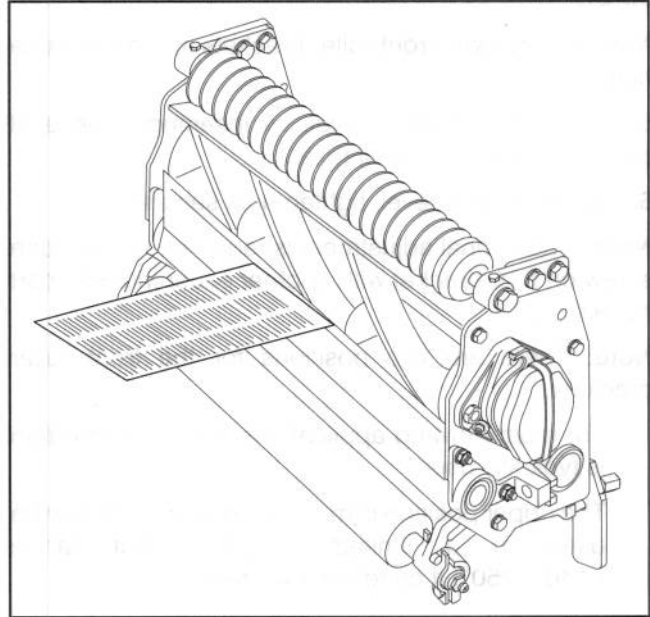

**Figure 1**
(Fig. 1 & 2)
2. Make sure reel contact is removed by turning bedknife adjustment knob counterclockwise (Fig. 1).